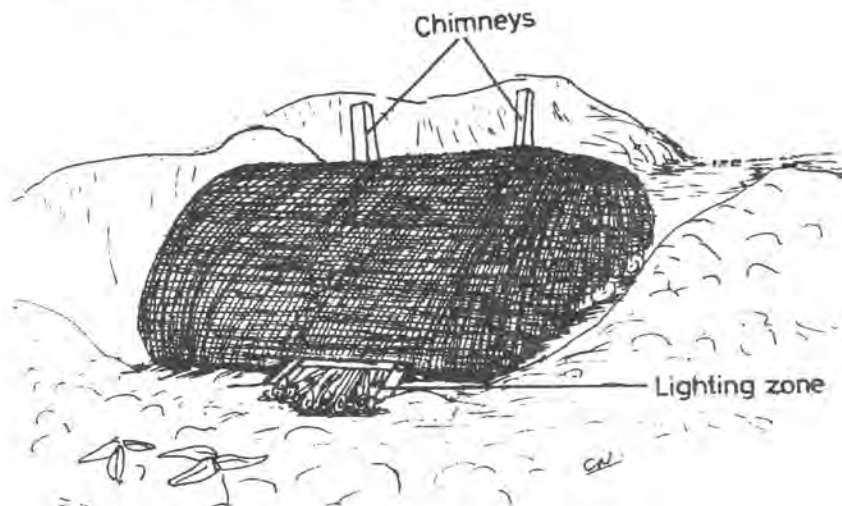

Figure 2.4: The pile of wood is covered with the wire mesh
- Place the two chimneys at the opposite side to the lighting place (Figure 2.4). The chimneys are made of gauge 26 galvanised iron sheet and are 180 cm long with either a diameter of 12 cm or cross-section area of 10.6 by 10.6 cm.